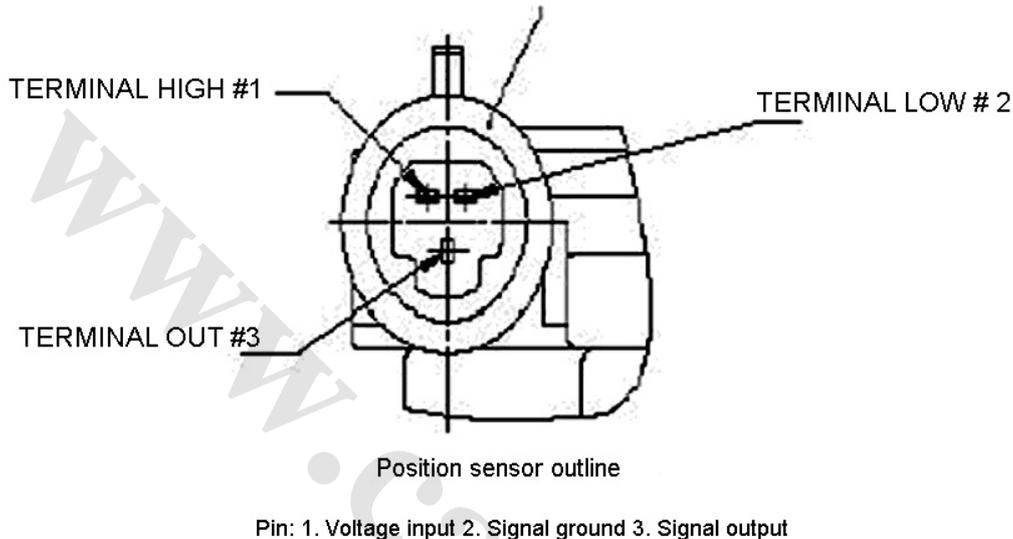

Fig. 1-3
2. Throttle position sensor figure (Fig. 1-3)